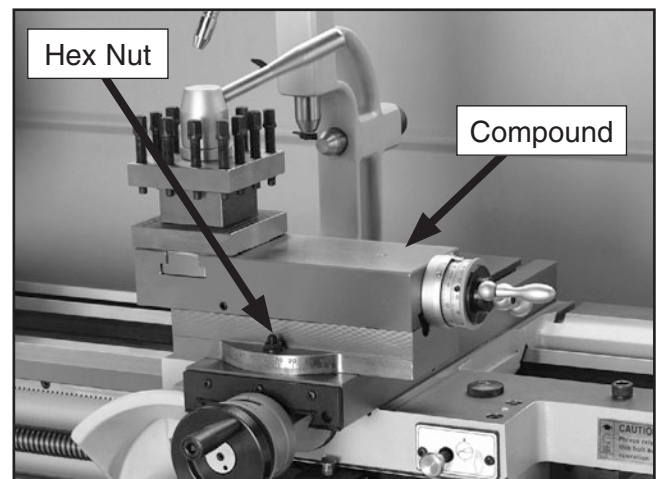

Figure 49. Compound slide set at an angle.
1. Loosen the two hex nuts, one on each side of the compound (see **Figure 49**).